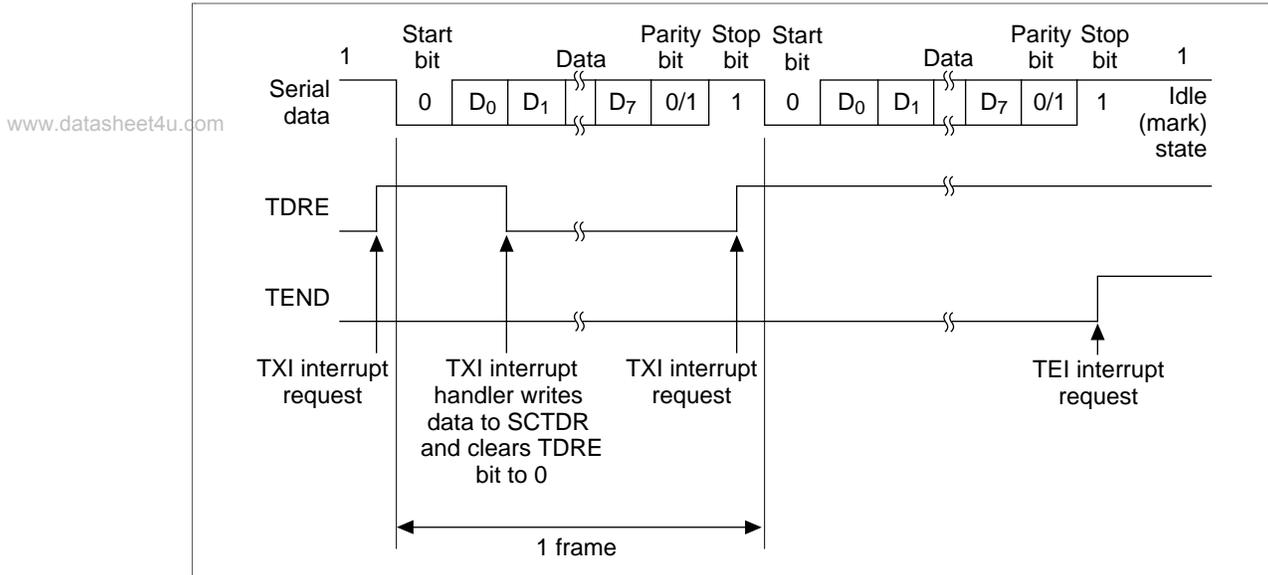

**Figure 13.5 Sample Flowchart for Transmitting Serial Data**
**Transmitting Serial Data (Asynchronous Mode):** Figure 13.5 shows a sample flowchart for transmitting serial data. The procedure for transmitting serial data is: